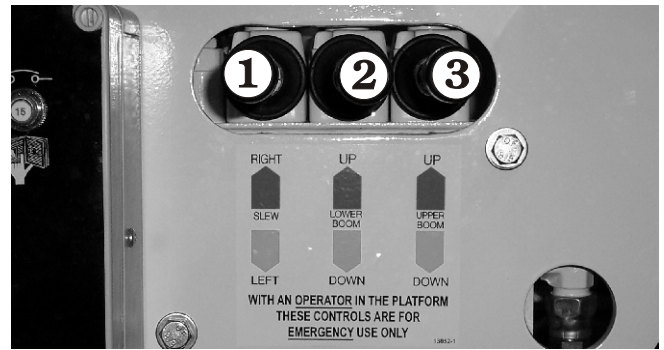

Figure 8.3 - Lower Controls - Movement Control Valve Levers
12. **Movement Control Levers:** Control levers 1 through 3 (see Figure 8.3) operate the upper and lower boom and slew control valves.